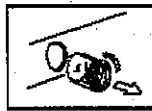

Fig2
- 2) Screw out filter by turning counterclockwise (Fig. 2);